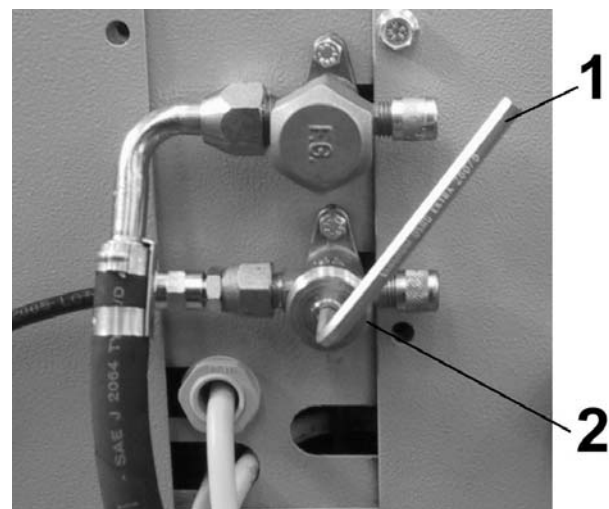

Fig. 28
**6.2.2** Insert a hexagon wrench **Fig. 28 Ref. 1** in the body of the service high pressure valve **Fig. 28 Ref. 2** and rotate it by 90° counterclockwise, keeping it open for 8 seconds
**6.2.3** Close the valve **Fig. 28 Ref. 2** again by rotating the hexagon wrench by 90°